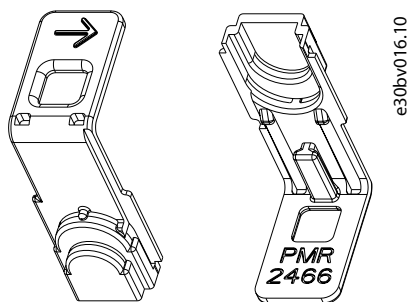

Figure 38: Protective Cover
1) Install the protective cover on the mains and motor terminals after connecting the stripped wire. See Figure 38.